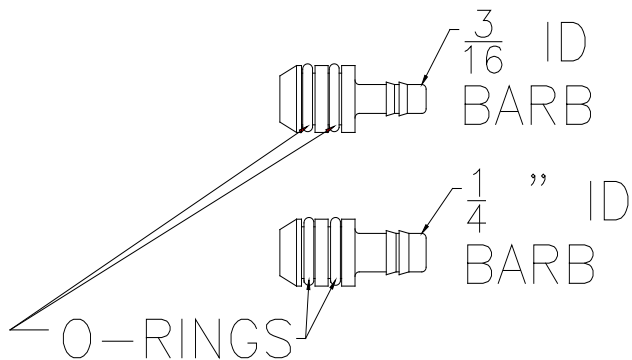

Figure 21: Barbed Fittings
17. Install o-rings on barbed fittings per Figure 21.